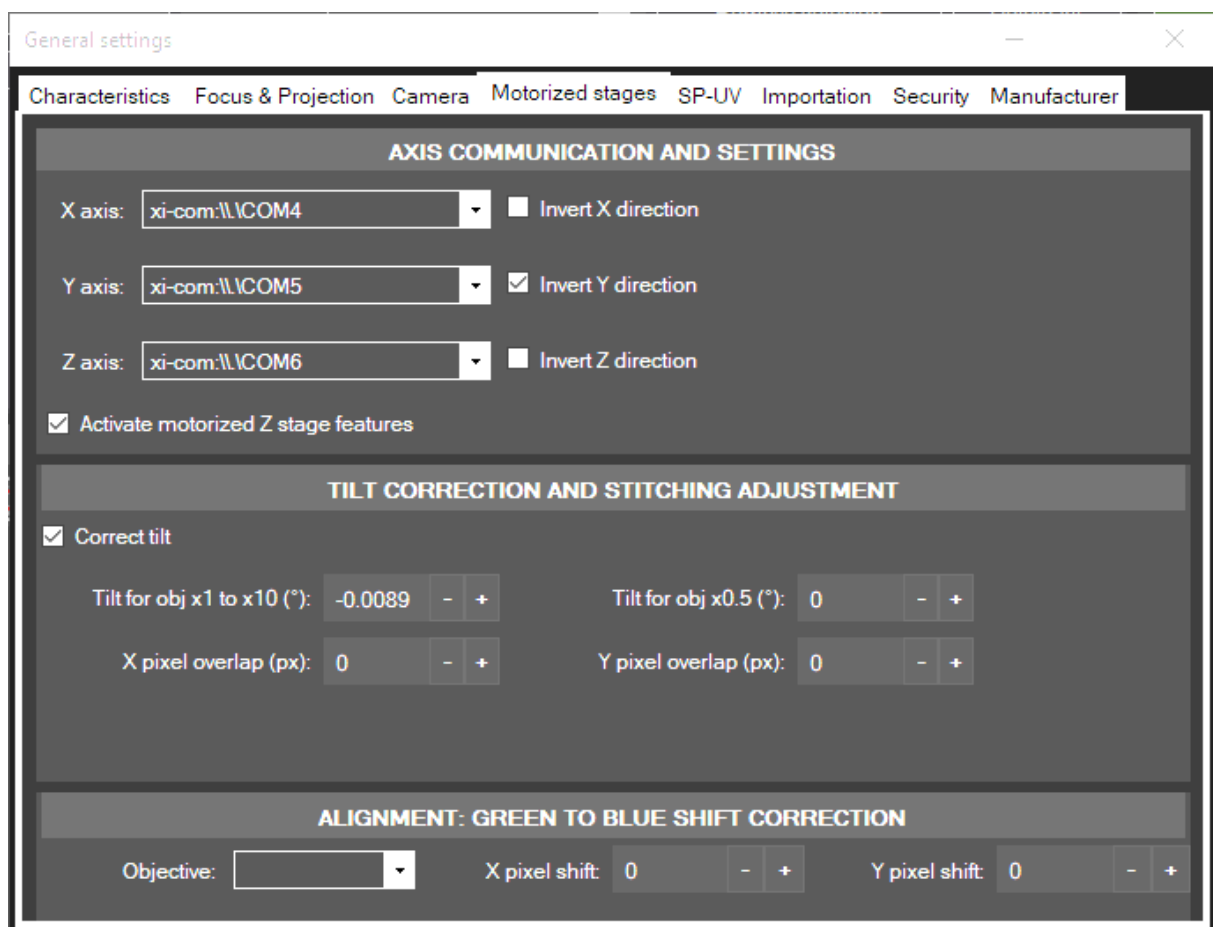

Figure 70 – Settings: motorized XY stage
**Axis communication.** Each axis of the stage, has a distinct communication port with the computer displayed as “xi-com:\\.\COM1” with a unique COM number (Figure 70).
**Stage motion corrections.** The projected image is slightly rotated in comparison to stage motion direction. This misalignment can result in bad field connections during stitching. The effects of misalignment can be software-corrected by checking **Correct tilt** option and adjusting the following parameters (Figure 70):